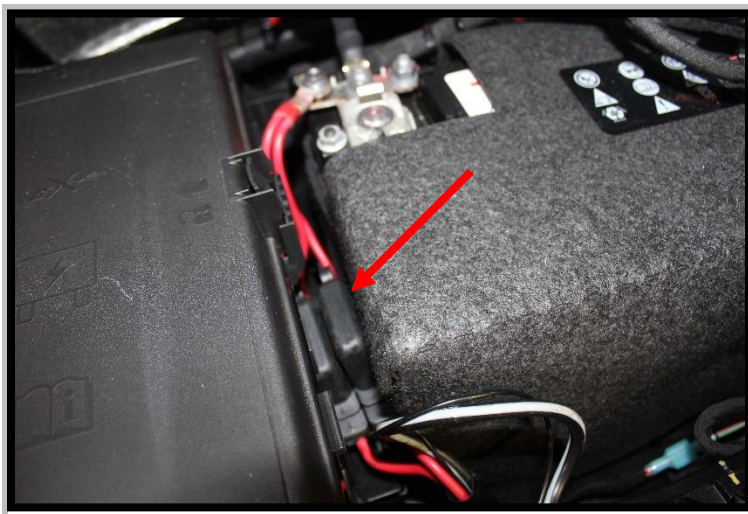

Figure 32 (Gas Engine Layout Depicted)
- 5-J) Back to the engine compartment to attach the main ARB harness to the battery. Both positive wires (**red**) should be placed in one of the provided connectors. Strip wires, insert in provided ring terminal, crimp, and use a heat source to shrink/seal. Attach to positive terminal of battery. Tuck the two fuse holders behind the battery between it and the fuse box (**Figure 32**, gas engine models). On diesel engine models the fuses can go in the back corner of the battery near the firewall. Both negative wires (**black**) should be placed in the last provided connector. Strip wires, insert in provided ring terminal, crimp, and use a heat source to shrink/seal. For both gas and diesel engine models, attach to the ground stud on the side of the fender (not the battery, it will not reach).